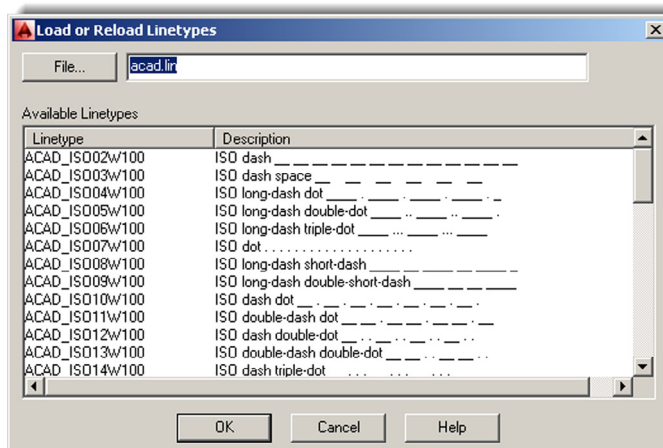

FIGURE 3.8
Step 2. Press Load... The Load or Reload Linetypes box comes up (Figure 3.8).